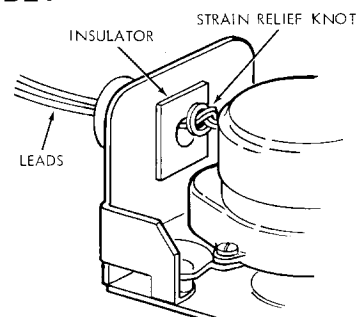

Fig. 6
4. Feed leads through conduit hub of new assembly and position insulator and strain relief knot as shown in Fig. 6.